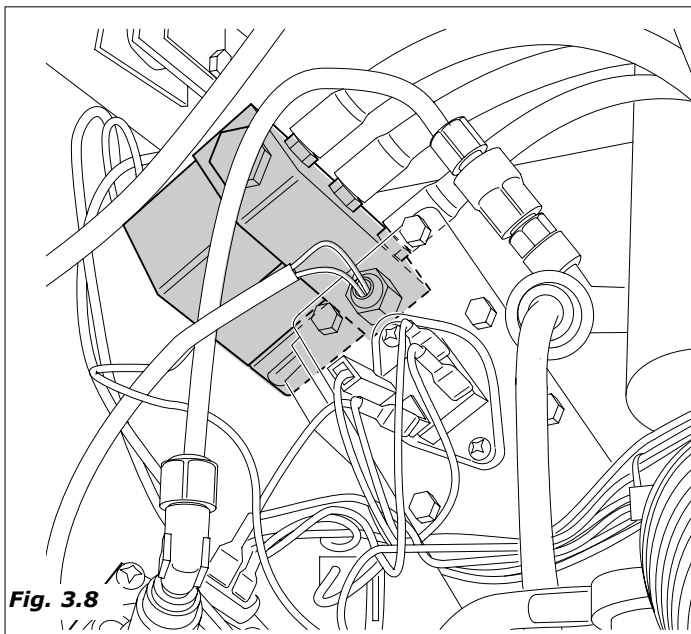

Fig. 3.8
- The solenoid valve fixed to the coffee boiler is engaged in order to deliver the required quantity of water into the mixer (fig.3.8);